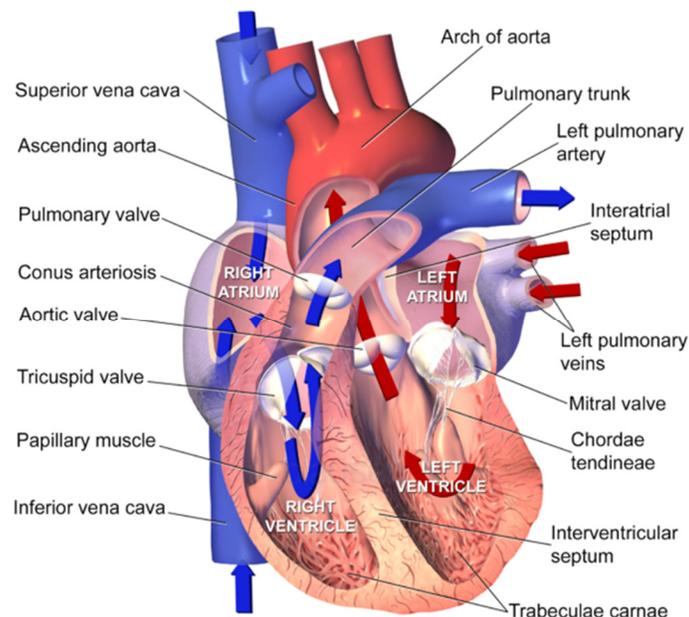

Figure 26 – Sectional anatomy of the heart (Blausen Medical Communications via Wikimedia Commons).
The cardiovascular system is responsible for circulating blood throughout the body to supply the tissues with oxygen and nutrients. The heart is the muscle responsible for pumping blood to and through the vessels. It is divided into four chambers: right atrium, right ventricle, left atrium, and left ventricle, as seen in Figure 26. There are valves between each atrium and ventricle and in the ventricle output to prevent backward flow. The average adult cardiac rate is 80 beats per minute; however, this rate increases to 120 bpm in the case of infants. The heart contraction stimulus is caused by an electrical signal that initiates at the Sinoatrial (SA) node, located at the top of the right atrium.